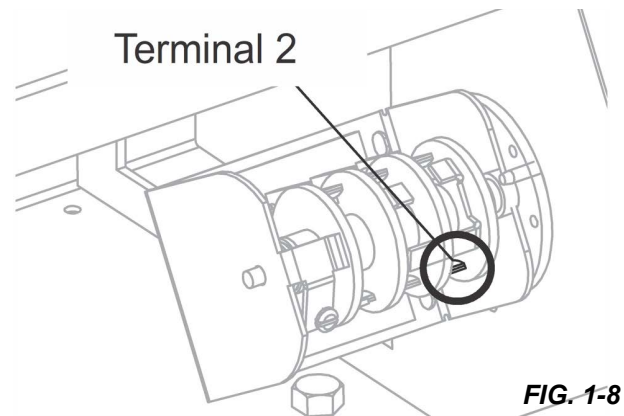

FIG. 1-8
14. Leaving any pre-existing connections in place, install the #10 fork to TRM 2 of the up/down drum switch. **See Fig. 1-8.**